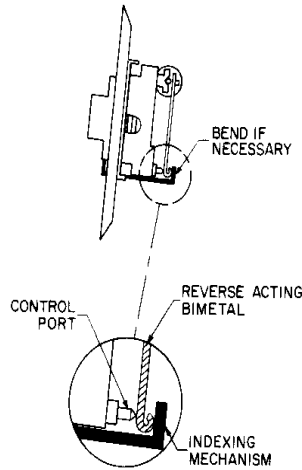

Fig. 3a
3. Insure that the indexing mechanism depresses the bimetal firmly on the control port when the electric switch is in the OFF position and that the indexing mechanism is lifted off the bimetal when the electric switch is indexed to the HIGH or LOW position. If necessary, the indexing mechanism may be bent slightly to obtain this action (see Fig. 3a), or, it may be necessary to bend tabs (on back of switch)